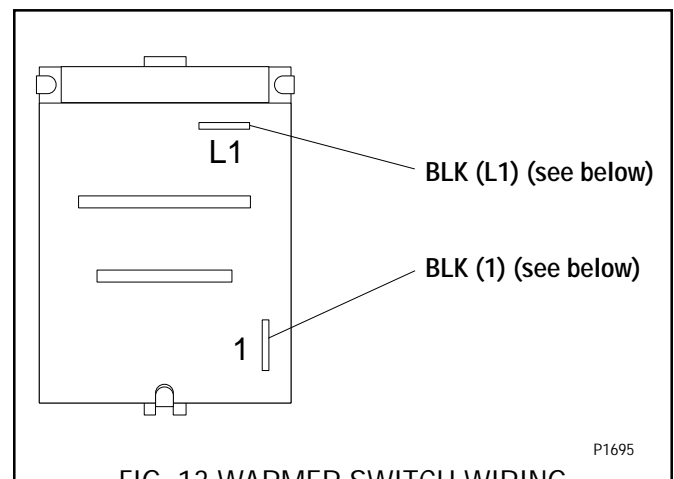

FIG. 13 WARMER SWITCH WIRING
4. Refer to FIG. 13 when reconnecting the wires.